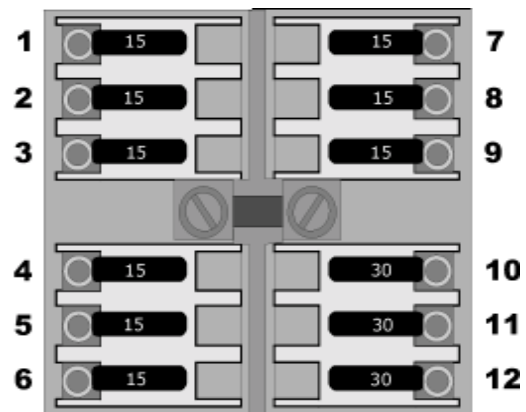

Fig. 4-30
| 12 Positions (Fig. 4-30) | 7 | 15 | Main Slideout (1) Lights/Security Lights |